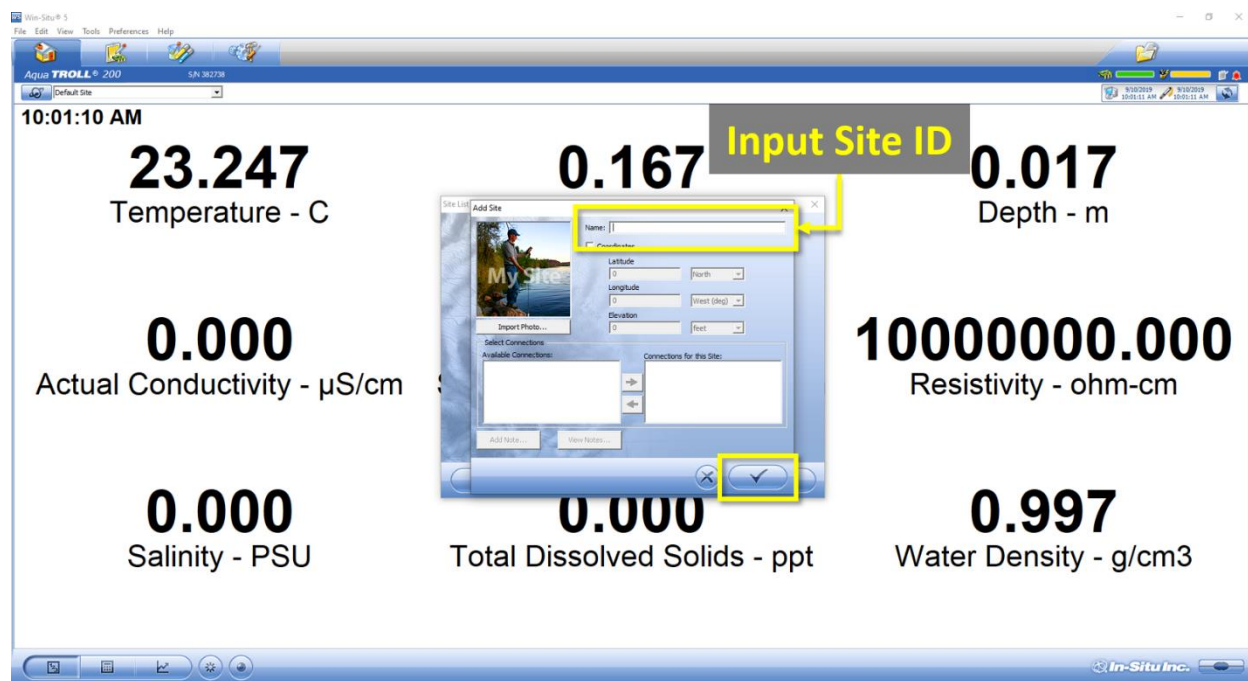

Figure 37. Input Site ID in Name Field and then Select the Checkmark to Save the Site to the Site List
2. In the **Add Site** pop-up window, enter the site ID for the site that is missing from the dropdown options (**Figure 37**), for example, SYCA is the site ID for Sycamore Creek. Only the **Name** field is required. Click on the checkmark to save the site name to the **Site List**.